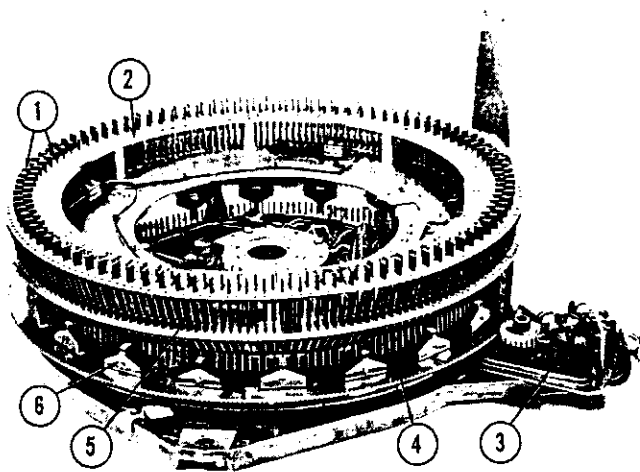
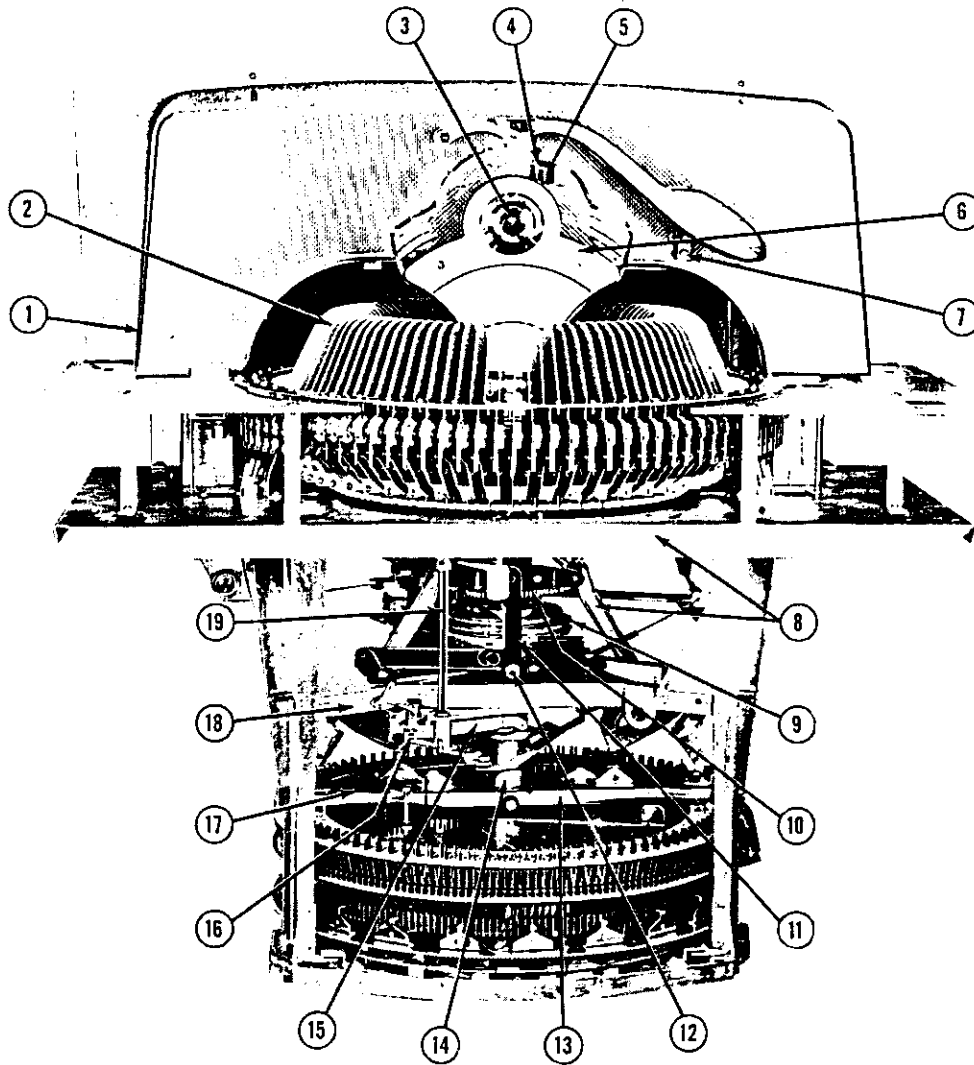
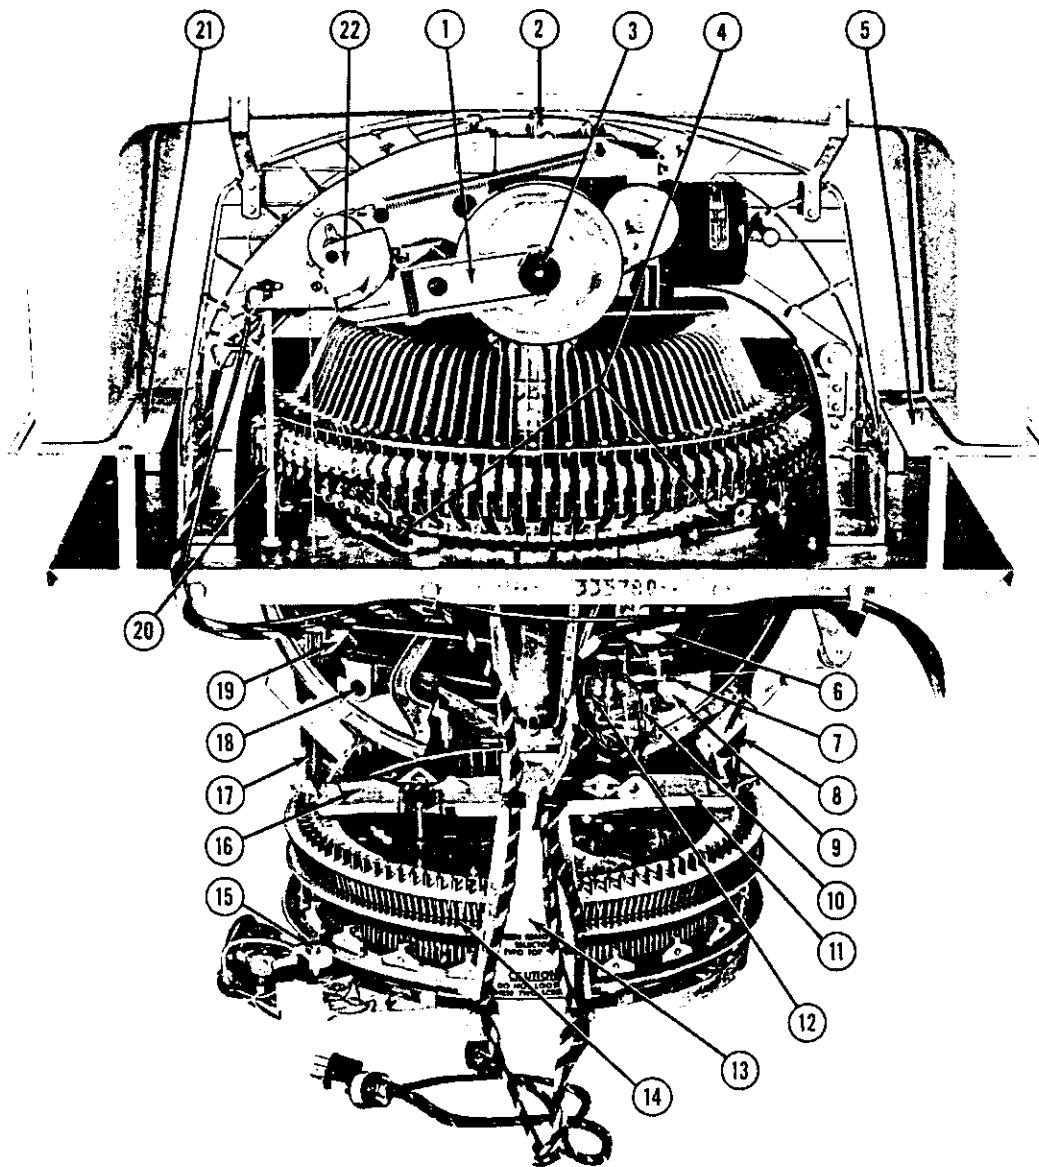

Fig. 12. ELECTRIC SELECTOR ASSEMBLY
Fig. 14. MODEL 2250 RECORD CHANGER (FRONT VIEW)
Fig. 15. MODEL 2250 RECORD CHANGER (REAR VIEW)
The electric selector assembly (Fig. 12) consists of a circular drum containing 200 latch pins (Item 1) with their accompanying 200 retracting springs (Item 5). These latch pins are actuated, or released, from their latch position by 20 rocker arms (Item 6) mounted on a rotating plate (Item 4). The rotating plate is revolved around the selector latch pins by the selector motor and gear assembly (Item 3). The selection of, or release of latch pins is governed by the following components of the electric selector assembly.
The Wurlitzer Model 2250 record changer (Fig. 14) is scientifically designed and fabricated to function without interruption throughout the service life of its several major components. These components have been carefully factory-adjusted and tested under rigid inspection, thus minimizing the possibility of breakdown or malfunction. The mechanism is very similar in construction and capacity to the preceding Model 2150, however the selection arrangement of its 100 seven inch, forty-five R.P.M. records and the sequence of programming has been simplified. Provisions for "extended play" records with duo pricing has been made practicable by the addition of E.P. Kit No. 151. The built-in timing of its mechanical components and its simplicity of design insures a minimum requirement for field adjustments. However, this service manual, if studied carefully, will equip service personnel for handling any problems that may arise in the field. The Model 2250 Wurlitzer record changer is a precision-built mechanism, and although sturdily constructed, it should be handled like any other finely made instrument.
a. Five major assemblies, or groups of assemblies make up the record changer, Figs. 14 and 15: The top support casting assembly (Item 2, Fig. 15) including the turntable assembly (Item 3, Fig. 14), the tone arm assembly, and the turntable motor and bracket assembly. The record carrier assembly (Item 2, Fig. 14). The chassis mounting plate and record lift arm assembly (Item 8, Fig. 14). The chassis frame and shaft assembly (Item 18, Fig. 14), which includes the main cam (Item 9) and the drive gear and ratchet assembly (Item 10). And the electric selector assembly (Item 14, Fig. 15). Each of these assemblies are discussed in detail and their respective functions described on pages 36 to paragraph "f" page 40, in section 5 of this manual.
b. The electric selector for the Model 2250 (Fig. 12) is mounted on two support castings (Items 8 and 17, Fig. 15) and the support plate (Item 13, Fig. 15). The components of the electric selector, their respective functions, and settings are discussed in paragraph "d", page 13 in section 5 of this volume.